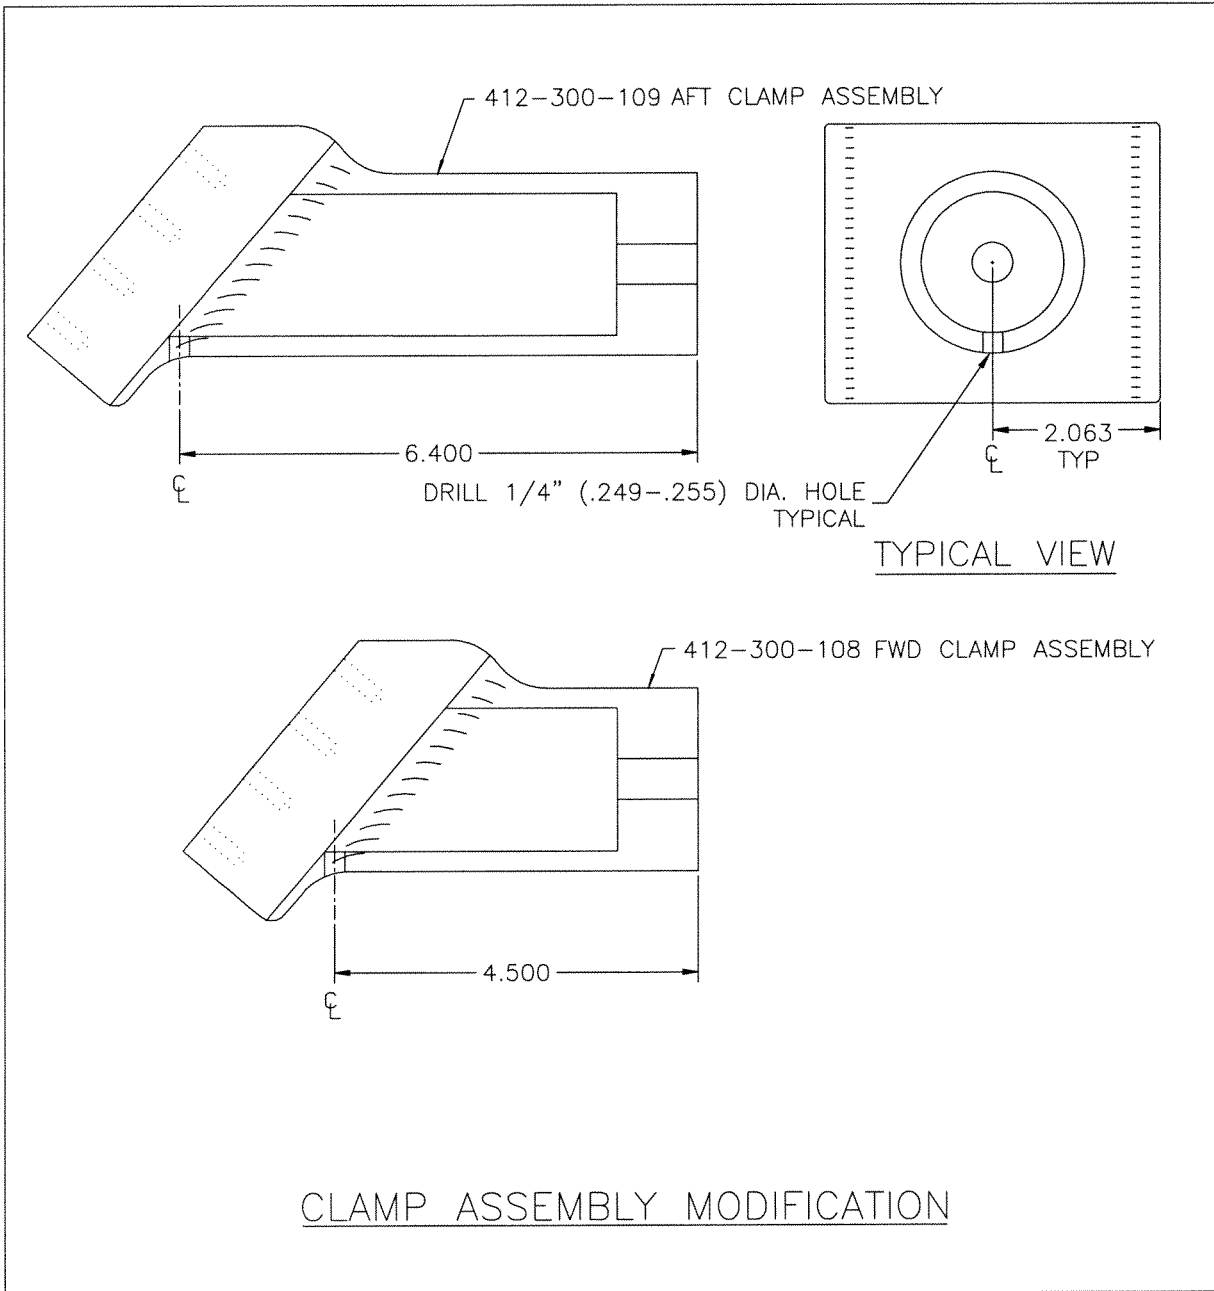

FIGURE 1
4. Drill a ¼" (.249"- .255" diameter) drain hole, horizontal with the ground, at the lowest point of the internal space which is retaining water as shown in Figure 1. Deburr both sides of the hole after the drilling process is complete.